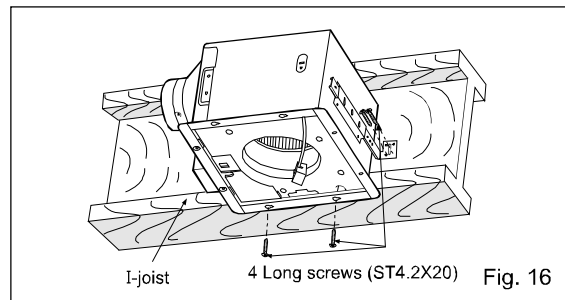

Fig. 16
3. Connect the fan body to the I-joist. (Fig. 16)